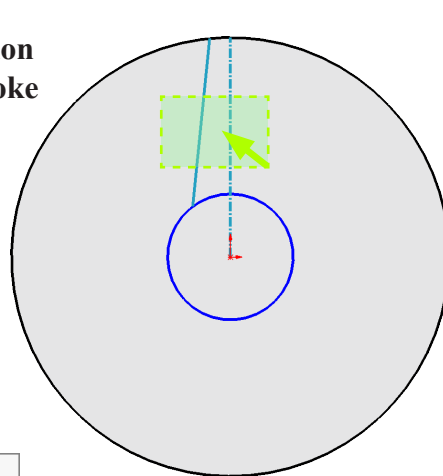

Fig. 10
Step 11. **Ctrl drag a selection to left to select spoke geometry, Fig. 10.**